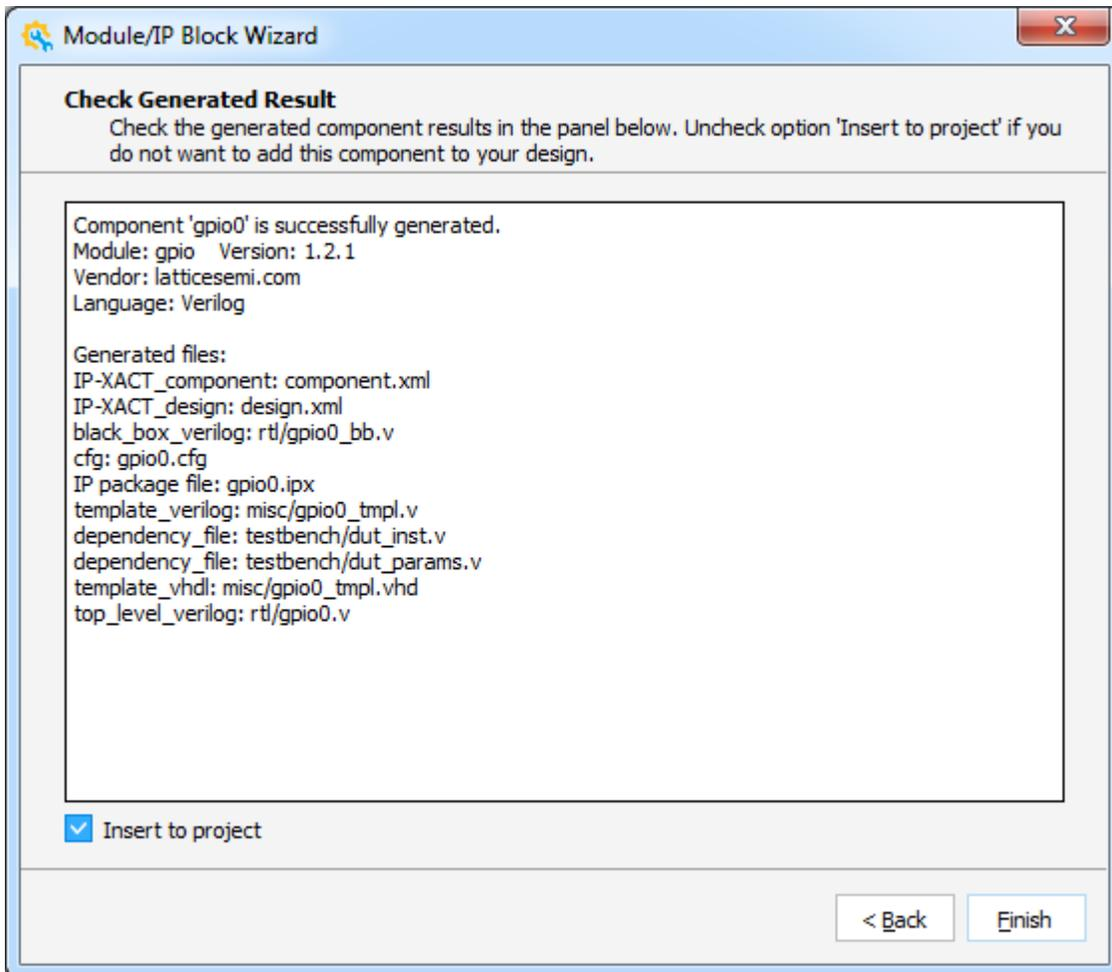

Figure 2.17. Module/IP Block Wizard - Check Generated Result
- Click **Generate**. Module/IP Block wizard shows the Check Generated Result page (Figure 2.17).